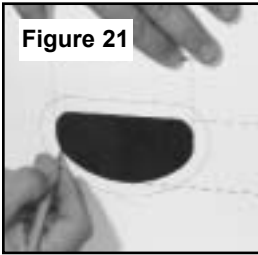

Figure 21
**STEP 1:** Mark the location for the Keypad Assembly using the full size template (pg. 57) provided in the last section of this manual (*see figure 21*) . Cut the 2-1/4” x 4-1/4” keypad assembly cutout.